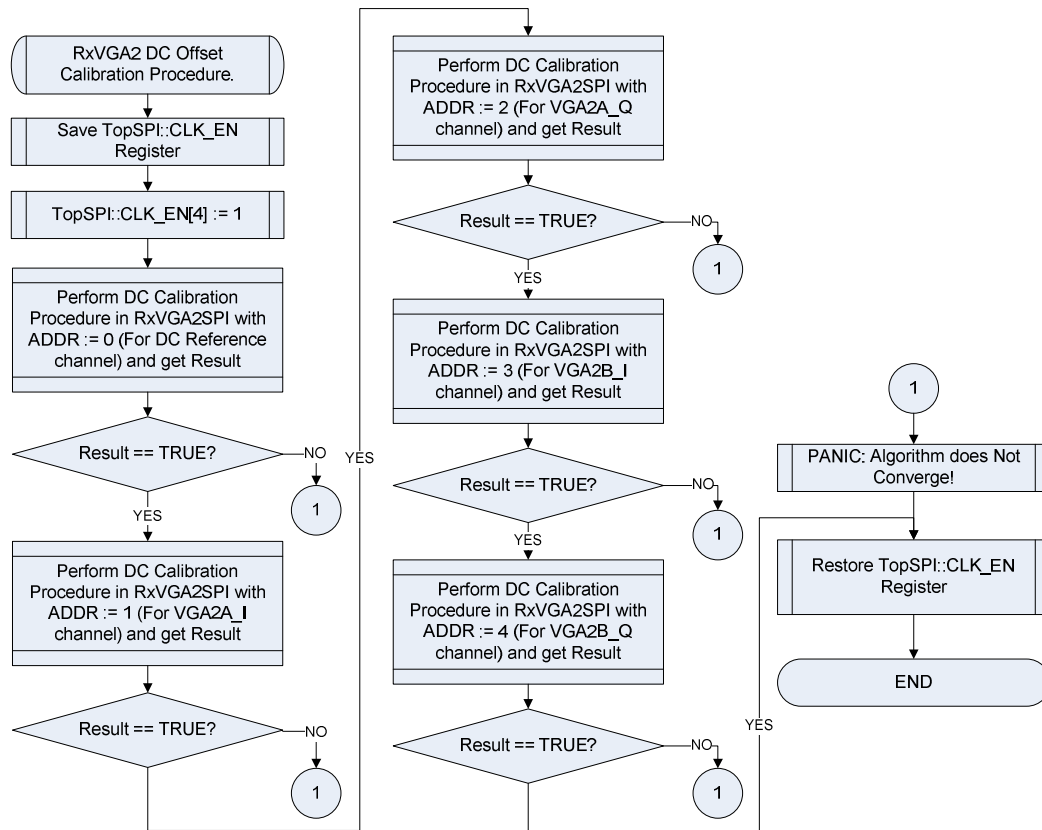

Figure 4.4
5. DC offset cancellation of the RXVGA2, Figure 4.4.